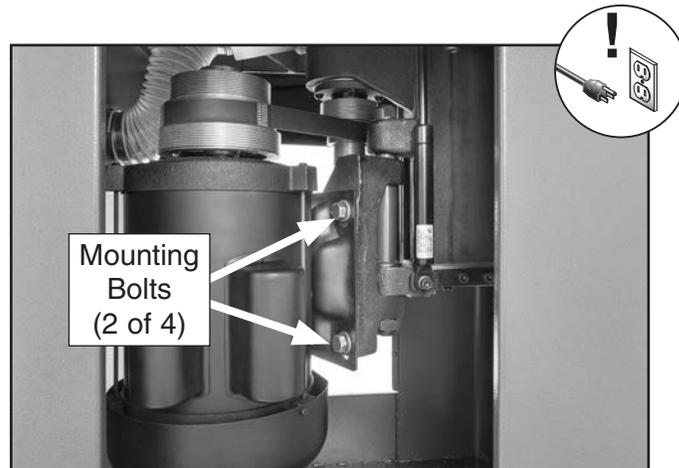

Figure 75. Motor mounting bolts location.
2. Remove motor access panel, then loosen the four motor mounting hex bolts, as shown in **Figure 75**. It may be easier to access back bolts from cabinet access door.